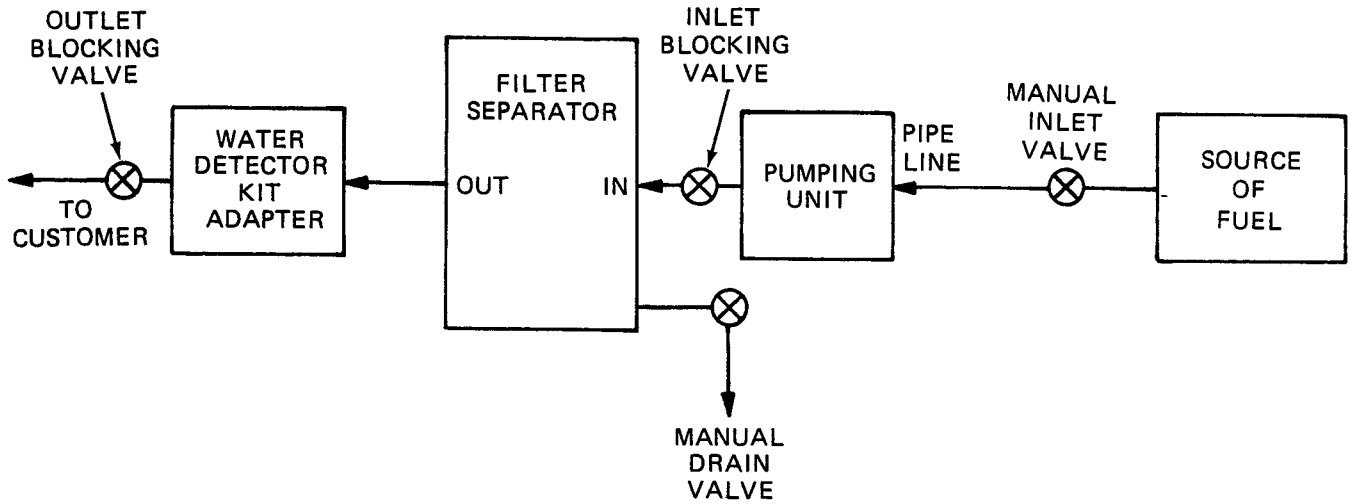

Figure 4-2. Typical Operational Layout.
- c. Drive ground rod (1) into earth at least 8 feet deep, and fasten ground cable to the ground rod and to filter/separator.
- d. Connect water detector kit adapter (2) to outlet connection (3) of filter separator (4).
- e. Connect outlet hose from pumping unit to inlet connection (5) on the filter/separator. Connect outlet hose to outlet connection (3) or to water detector kit adapter (2).
- f. Ensure probe (6) has bevel facing fuel flow.
- g. Refer to figure 4-2 for typical filter/separator operational layout.